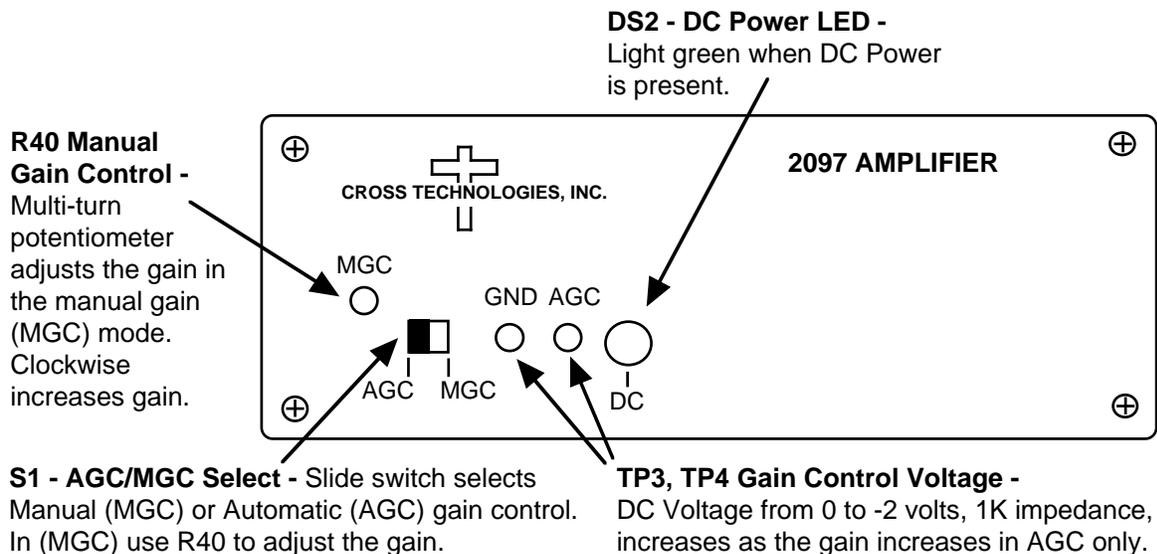

Figure 2.2 2097 Front Panel Controls and Indicators
2.2 Controls and Indicators - Figure 2.2 shows front panel controls and indicators.
- 1.) Check that S1 is set to the desired positions. Normal operation is AGC (*Figure 2.2*).
- 5.) Make sure the DS2 (green, DC Power) is on (*Figure 2.2*).